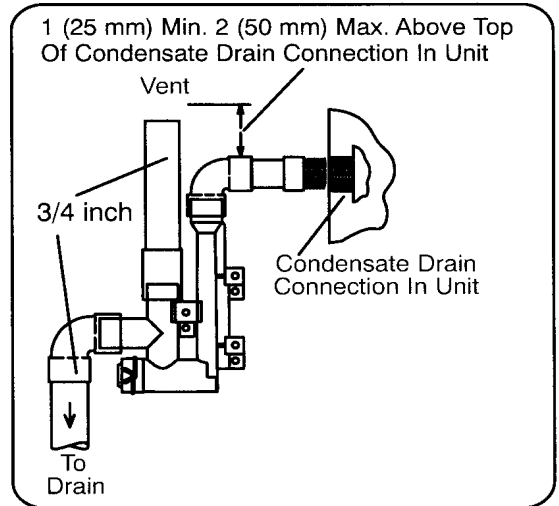

Figure 49
3. Install the cap over the clean out opening at the base of the trap. Secure with clamp. See Figure 49.
4. Install drain trap using appropriate PVC fittings, glue all joints. Glue the provided drain trap as shown in Figure 49. Route the condensate line to an open drain. *Condensate line must maintain a 1/4" downward slope from the furnace to the drain.*